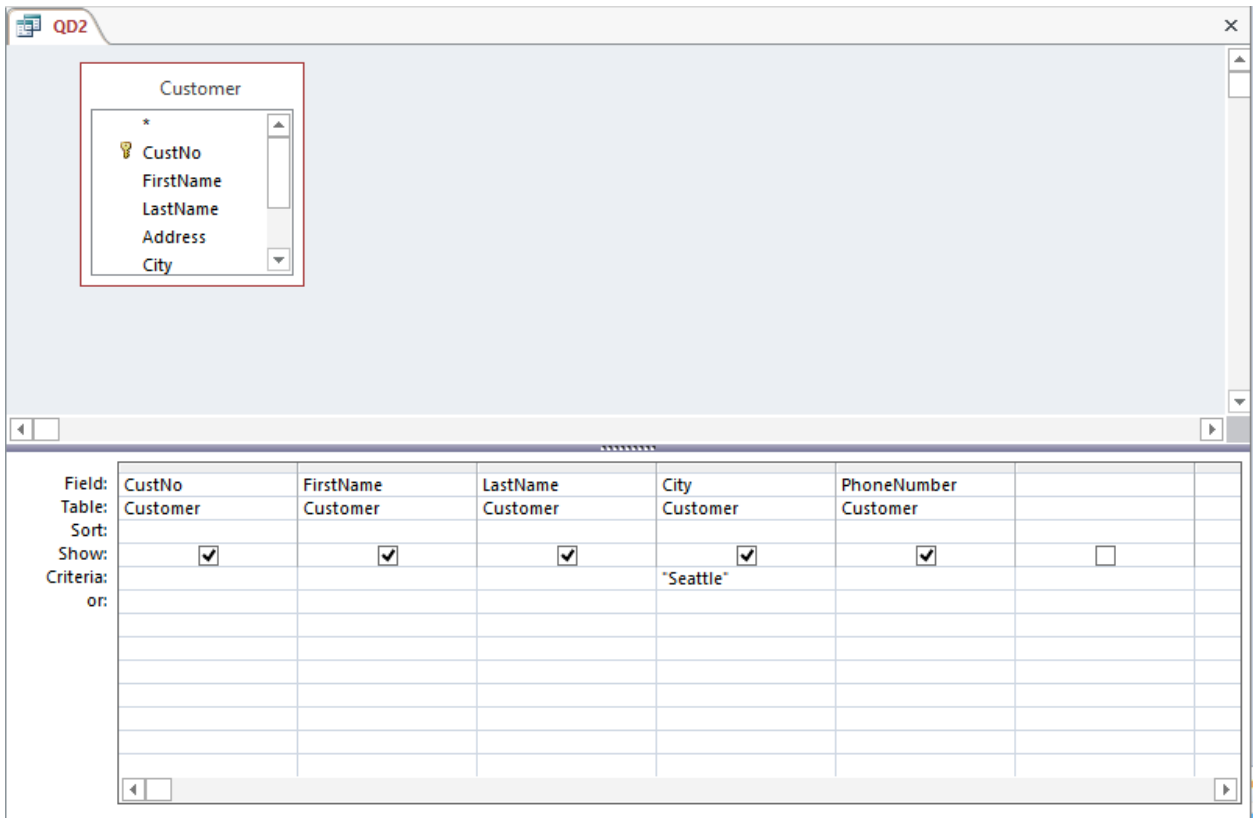

Figure 15: “QD2” with the “Seattle” Criterion
7. Enter a Condition: Next you will insert a condition to limit the list to only customers in Seattle. To accomplish this task, type in the *City* column and the *Criteria* row “Seattle”. Be sure to enclose it in double quotes (see Figure 15).